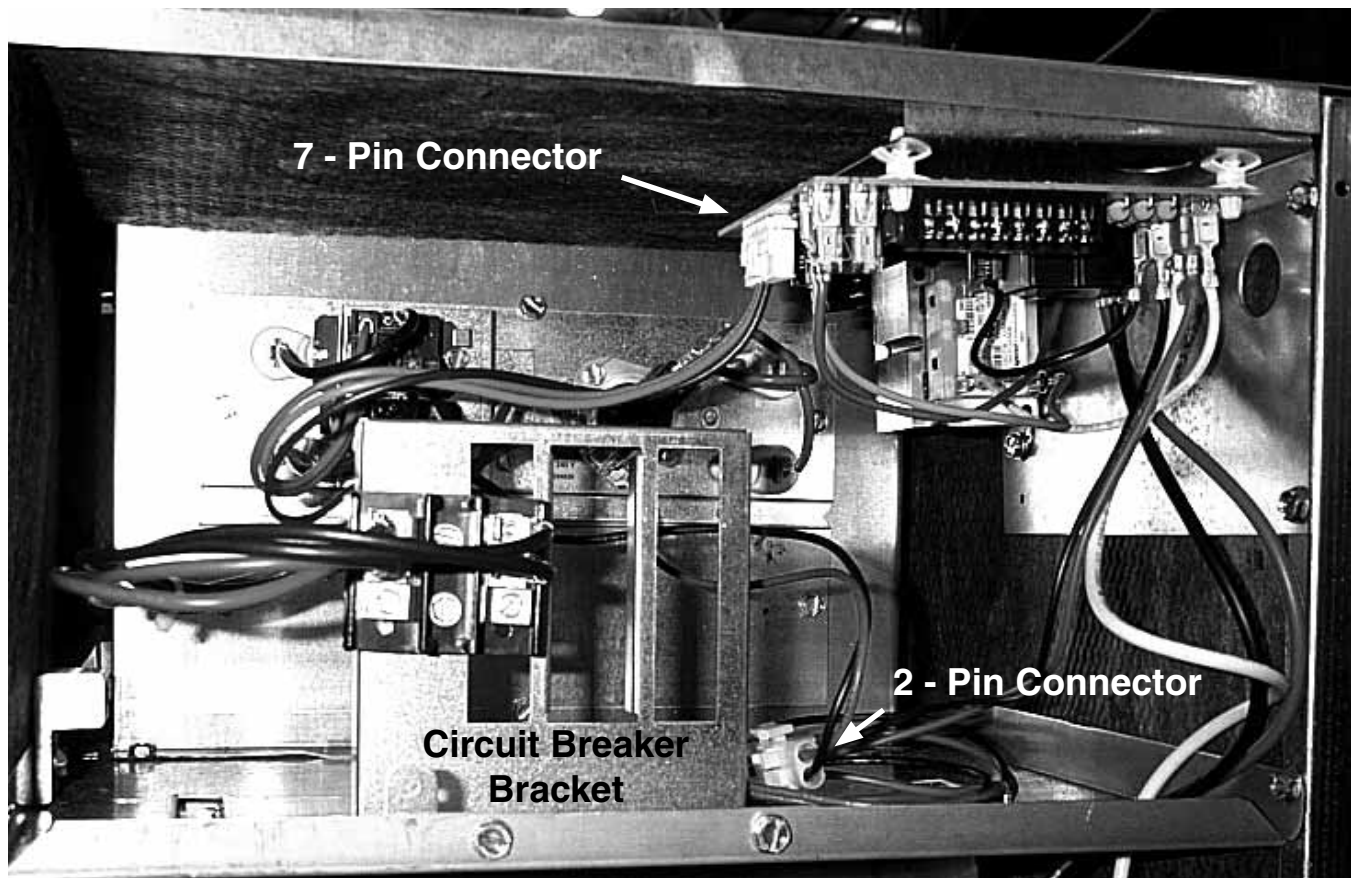

Figure 2. Sample Installation (shown with access door removed)
8. Install the circuit breaker bracket inside of the air handler. Position the tab on the bottom of the bracket into the slot of the control panel box. See Figure 2 (page 4) for proper placement of bracket
1. Snap the circuit breaker onto the circuit breaker bracket as shown in Figure 3. The circuit breaker must be positioned (side with 1/4" terminals to the right) as shown in the Figure 2.